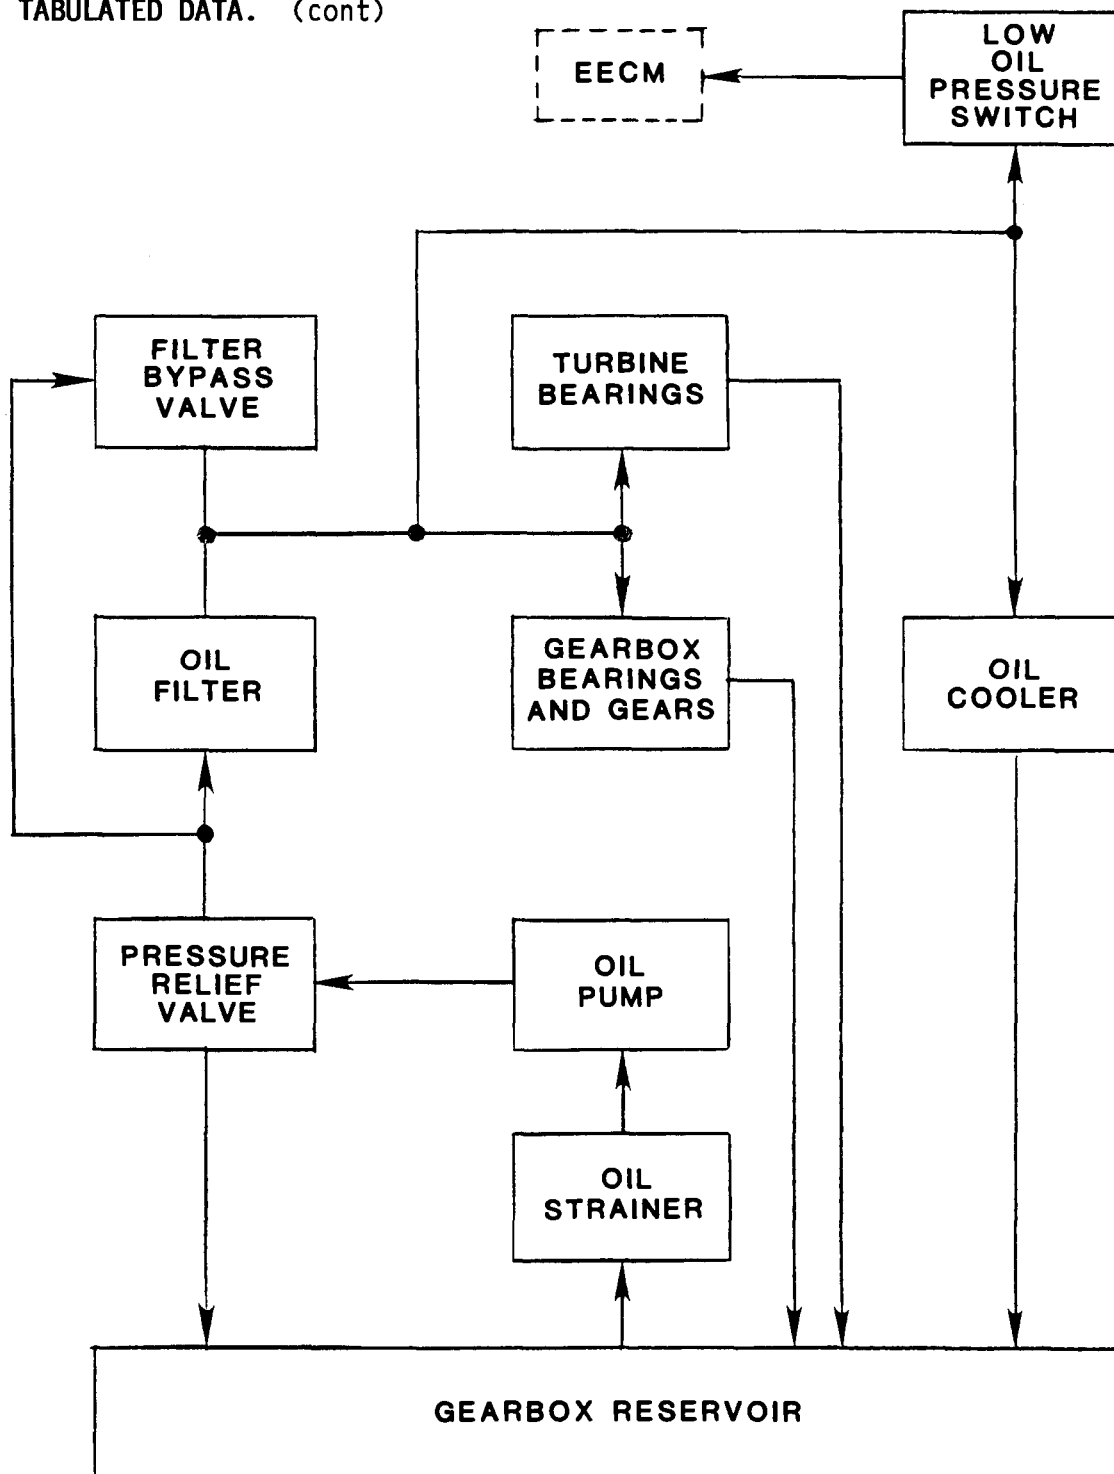

Figure 1-4. Lubrication System Simplified Block Diagram
c. Diagrams and Schematics. Figure F0-1 shows a generator set wiring installation. Figure F0-2 is a generator set schematic. F0-3 is a generator set wiring diagram. F0-4 is a wiring diagram of the control panel. Foldouts are located at the back of this manual. Figure 1-3 is a schematic of the fuel system. Figure 1-4 is a simplified block diagram of the lubrication system.